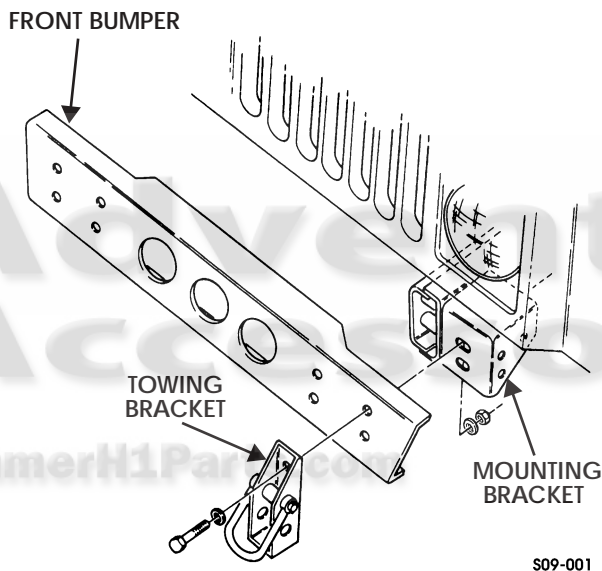

Figure 9-13: Front Bumper and Towing Brackets for Vehicles Without Winch
2. Remove four locknuts, washers, capscrews, washers, two towing brackets, and front bumper from mounting brackets. Discard locknuts (Figure 9-13).
1. Install front bumper and two towing brackets on mounting brackets with four washers, capscrews, washers, and locknuts. Tighten capscrews to 90 lb-ft (122 N•m) (Figure 9-13).